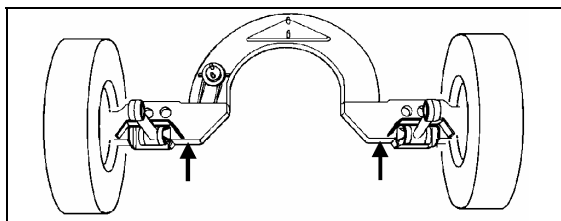

FIGURE 13: JACKING POINTS ON TAG AXLE OEH3B764
3. Install jacks under tag axle jacking points to support the axle weight (refer to figure 13).